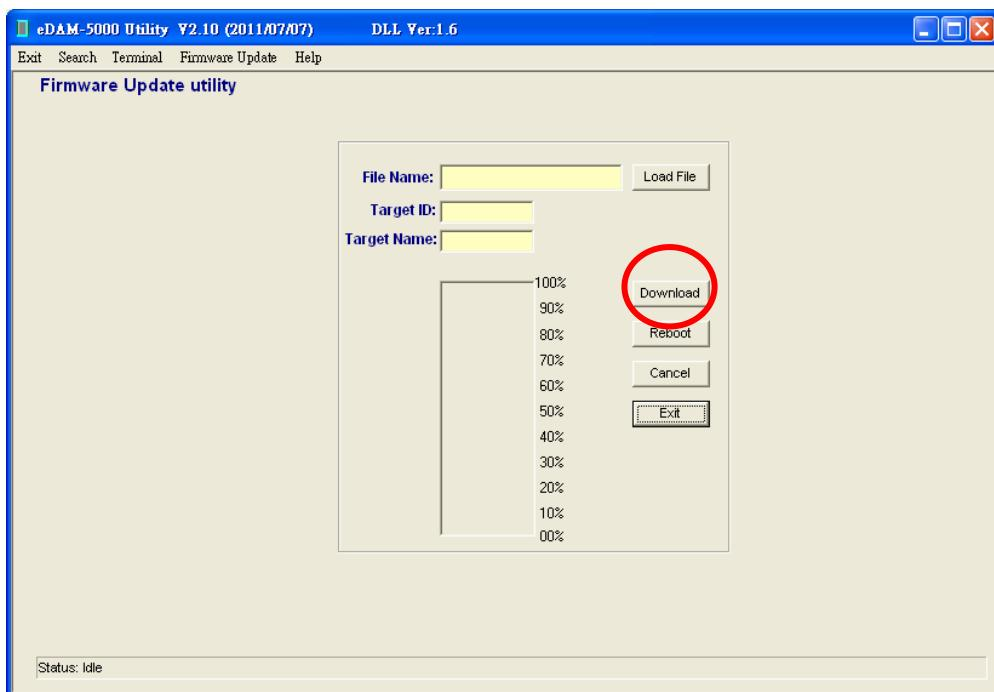

Figure 15-7
7. Click “Download” button to start to update firmware (see Figure 15-7)